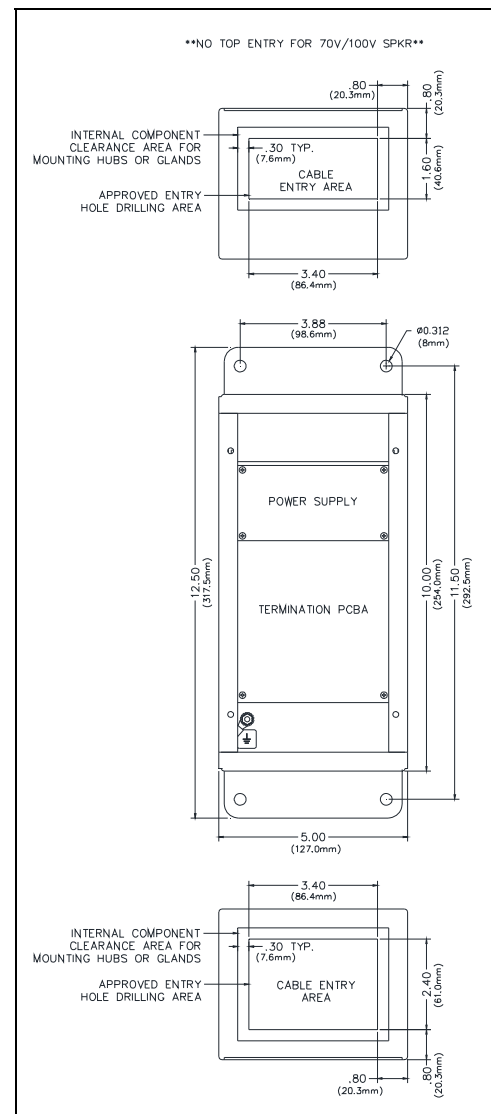

Figure 2. Suggested Wire Entry Locations
1. Mount the enclosure using the four 0.312-inch (8 mm) diameter holes located on the mounting flanges with ¼-inch (M6) hardware (see Figure 2).
3. Drill or punch entry openings in the rear section of the enclosure (see Figure 2).
2. Secure it to the ground terminal located at the lower left corner in the back of the rear enclosure (see Figure 2).